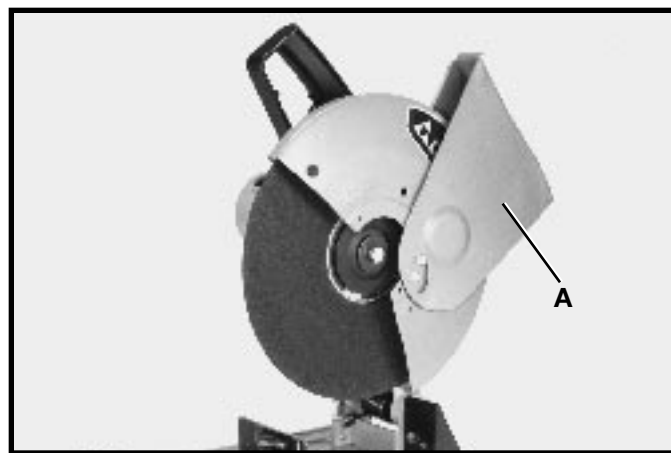

Fig. 23
2. Rotate the front wheel guard (A) Fig. 23, to the up position, as shown.